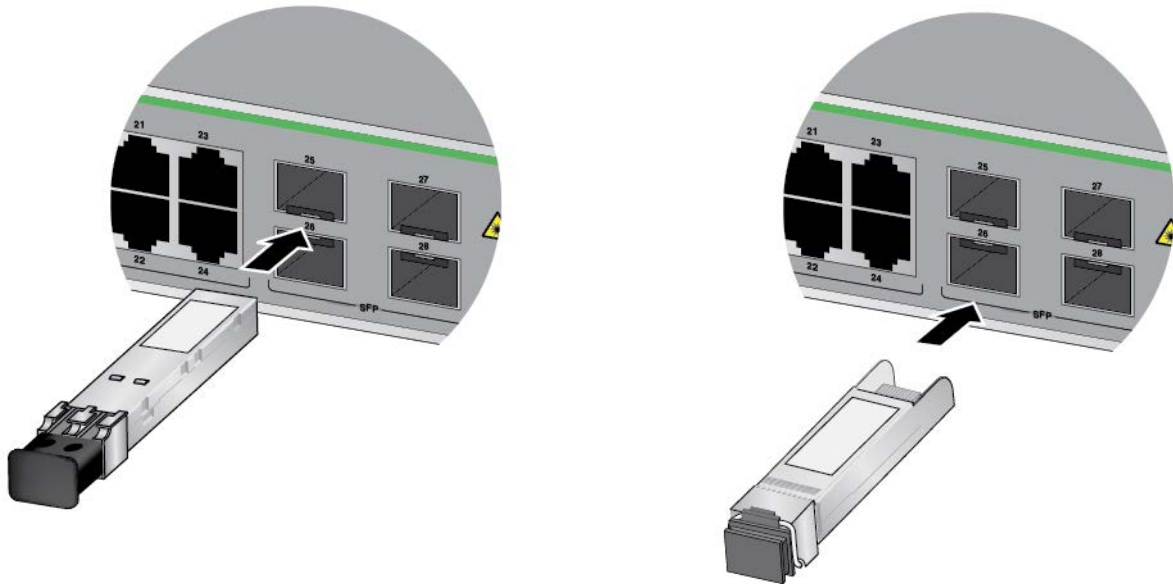

Figure 50. Installing an SFP Transceiver
3. Slide the transceiver into the slot until it clicks into place. Refer to Figure 50 on page 77.